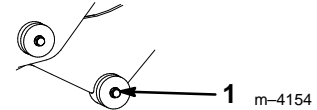

Figure 3
1. Back out the couler pin screw about 0.5 in. (1.3 cm), then strike it several times with a hammer to loosen the pin (Fig. 3).